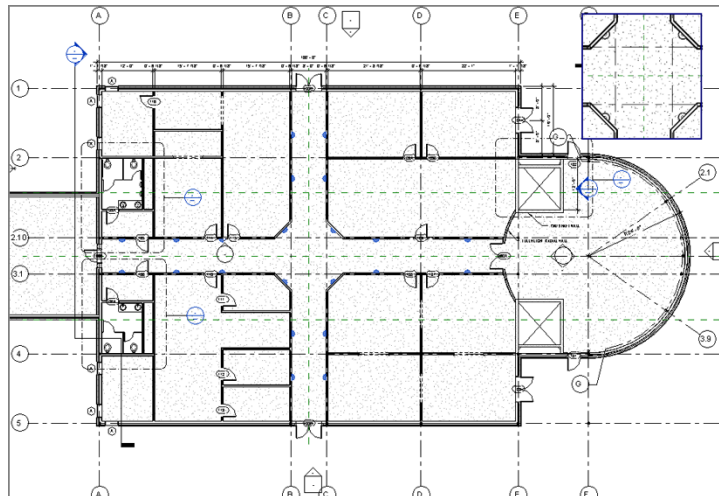

FIGURE 9.50: Copying the sconce to the other hallway walls
6. Add sconces to the walls of the hallways as appropriate, as shown in Figure 9.50.